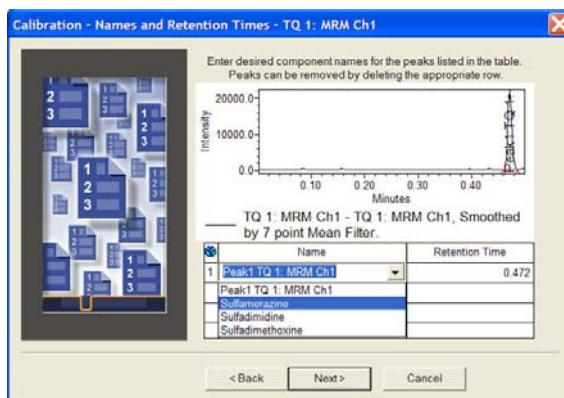

Figure 115 - Calibration Name and Retention Time window
**NOTE:** *The component names match the names entered in the standard Amounts from Run Samples. The final view for this dialog box should match the one displayed in Figure 115.*